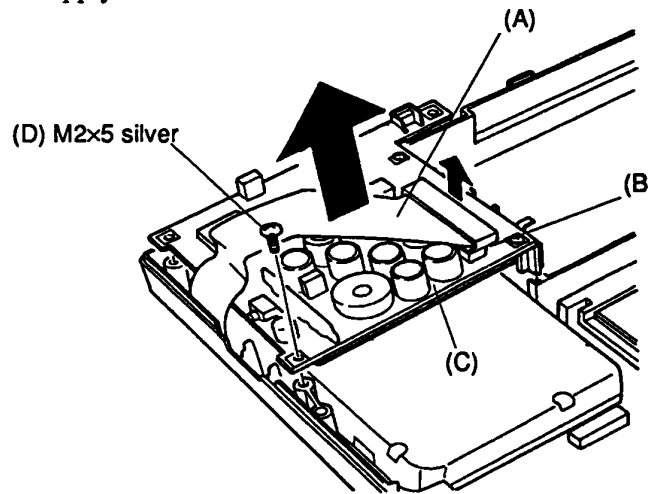

Figure 4-18 Removing the power supply
To remove the T4400SXC's power supply follow these steps and refer to figure 4-18:
1. Place the power supply into position as shown in figure 4-18. Make sure the battery terminal connections are properly inserted in the battery case.